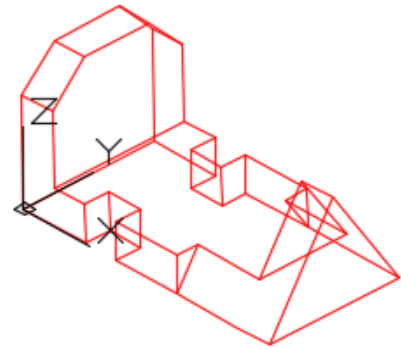

Figure Step 3A
Step 3 On layer: Surface 2, create surface faces on each side including the back and bottom. Surface all of it with mesh surfaces. (Figure Step 3A and 3B)